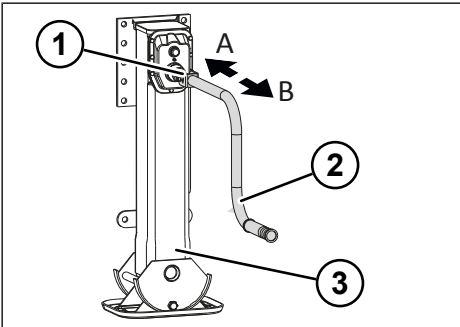

Fig. 5-3: Load speed and rapid speed of the landing leg winch
- ▶ Switch on rapid speed by pulling out the hand crank (see "Fig. 5-3: Load speed and rapid speed of the landing leg winch", pg. 26).
- ▶ Switch on load speed by pushing in the hand crank (see "Fig. 5-3: Load speed and rapid speed of the landing leg winch", pg. 26).
- ▶ Set to load speed by pushing in the hand crank (see "Fig. 5-3: Load speed and rapid speed of the landing leg winch", pg. 26).
- ▶ Set to high speed by pulling out the hand crank (see "Fig. 5-3: Load speed and rapid speed of the landing leg winch", pg. 26).